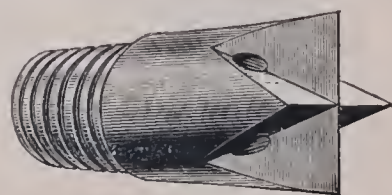

Fig. 7. Chopping-Bit.
**CHOPPING.** For this purpose *Chopping-Bits* are used (Fig. 7). These are made of steel, with hardened chisel-shaped edges, and are screwed to the lower end of the wash-rod. Rod and bit are then jumped up and down, as in driving, breaking the boulders.